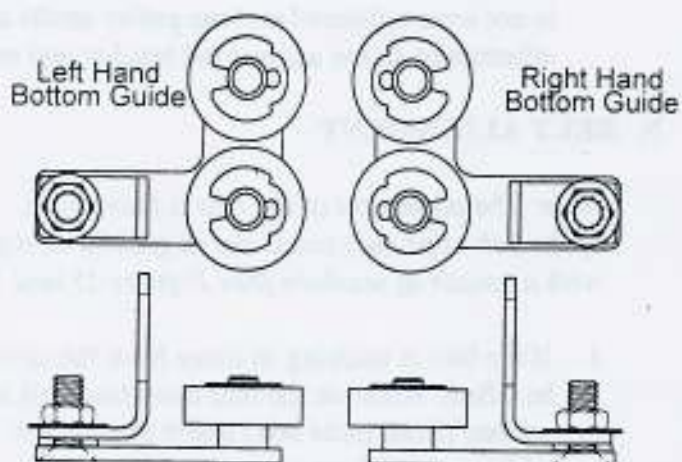

Figure 32
- Locate the bottom guide assembly in the parts box (See Figure 32).